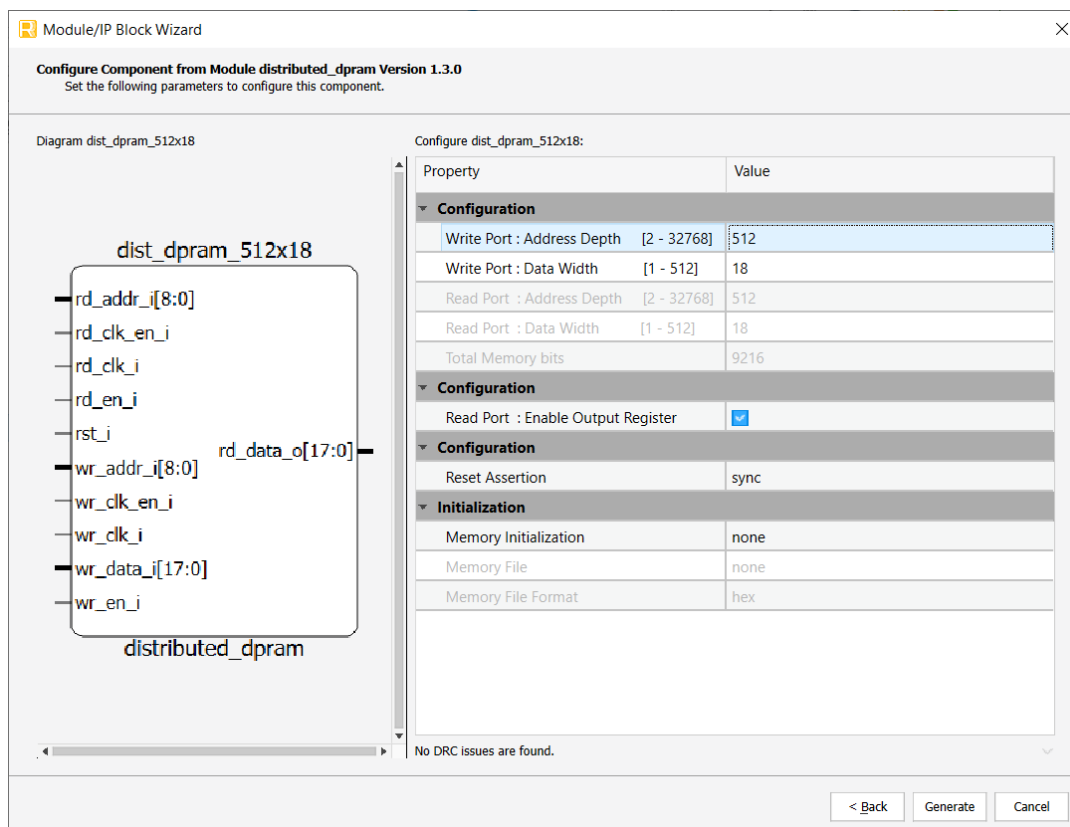

Figure 3.3. Example: Generating Distributed_DPRAM Module Customization
3. In the module's dialog box of the **Module/IP Block Wizard** window, customize the LUT-based Pseudo Dual Port RAM using drop-down menus and checkboxes as shown in Figure 3.3.